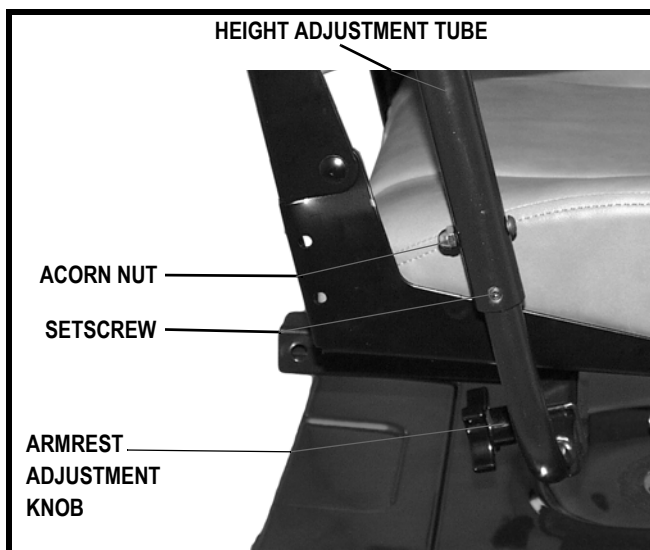

Figure 15. Armrest Height Adjustment
1. Loosen the armrest adjustment knobs at the back of the seat frame. See **figures 15 and 16**.